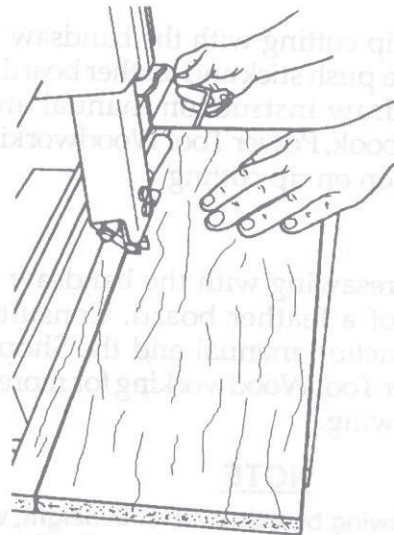

Fig. 17
15. The fence should now be parallel to the board. If a small gap still exists along the fence and board, use a 5/32" Allen wrench to adjust the setscrews (12) located in the end of the fence base (15), as seen in Fig. 17. This will eliminate any remaining gap. The setscrews should be used only to correct minor misalignment.